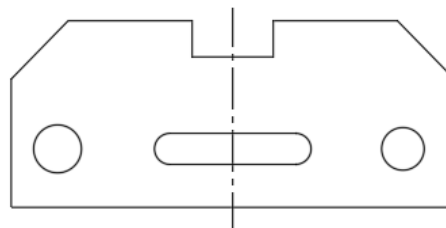

Figure 1-17 Sketch after applying and hiding all constraints
26. Choose the **Show/Hide** button from the **Parametric** tab and hide the display of all constraint bars and save the drawing. The sketch after applying and hiding all constraints is shown in Figure 1-17.